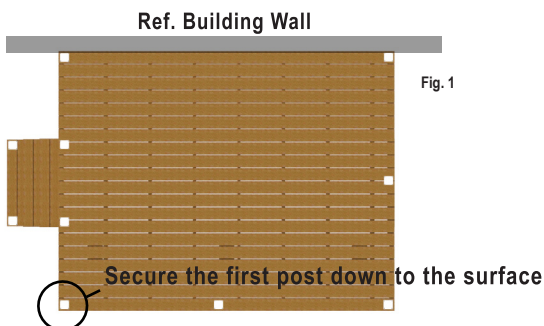

Fig. 1
(i.e. end, center, corner, etc.) (See Fig. 1)
- Secure the first post down to the surface using the recommended post anchors. (See Fig. 1 & 2)